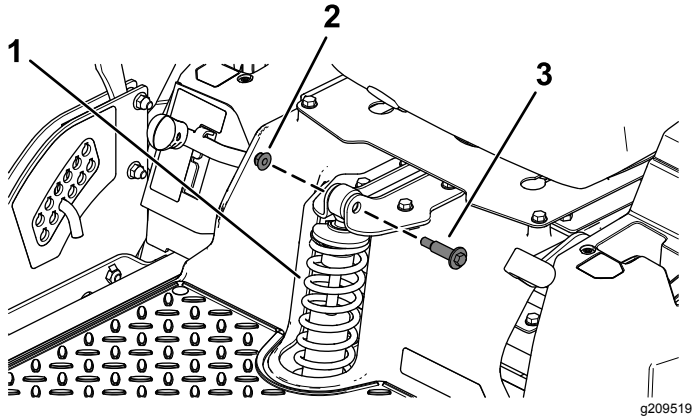

Figure 2
1. Remove the 2 wheel bolts and 2 flange nuts (3/8 inch) securing the existing front spring (Figure 2).
2. Remove the existing front spring (Figure 2).
Install the new front spring using the previously removed 2 wheel bolts and 2 flange nuts (3/8 inch) as shown in Figure 2.